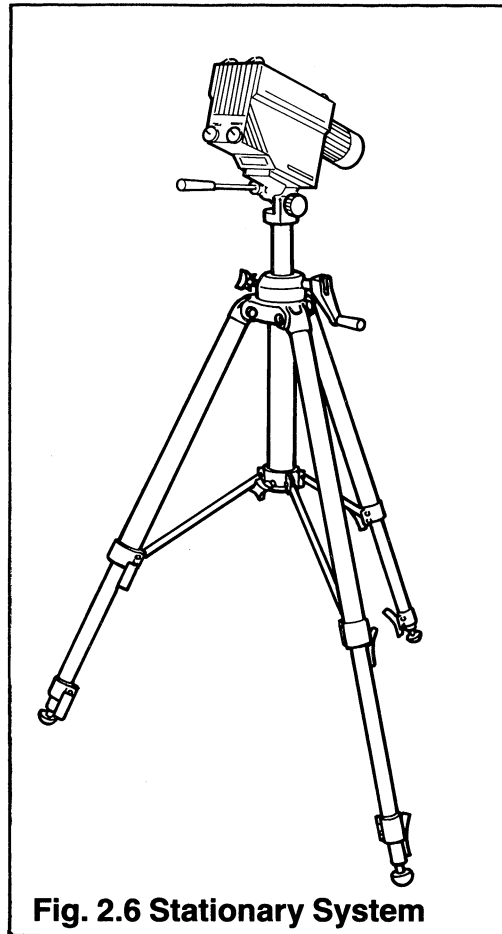

Fig. 2.6 Stationary System
- (b) **Stationary System** is designed for static installation with scanner mounted on a fixed tripod and other equipment placed on a work bench. It can be combined with the desk computer, colour monitor or colour graphics printer and provides the complete facility requirements for scientific analysis of thermograms (Fig. 2.6).